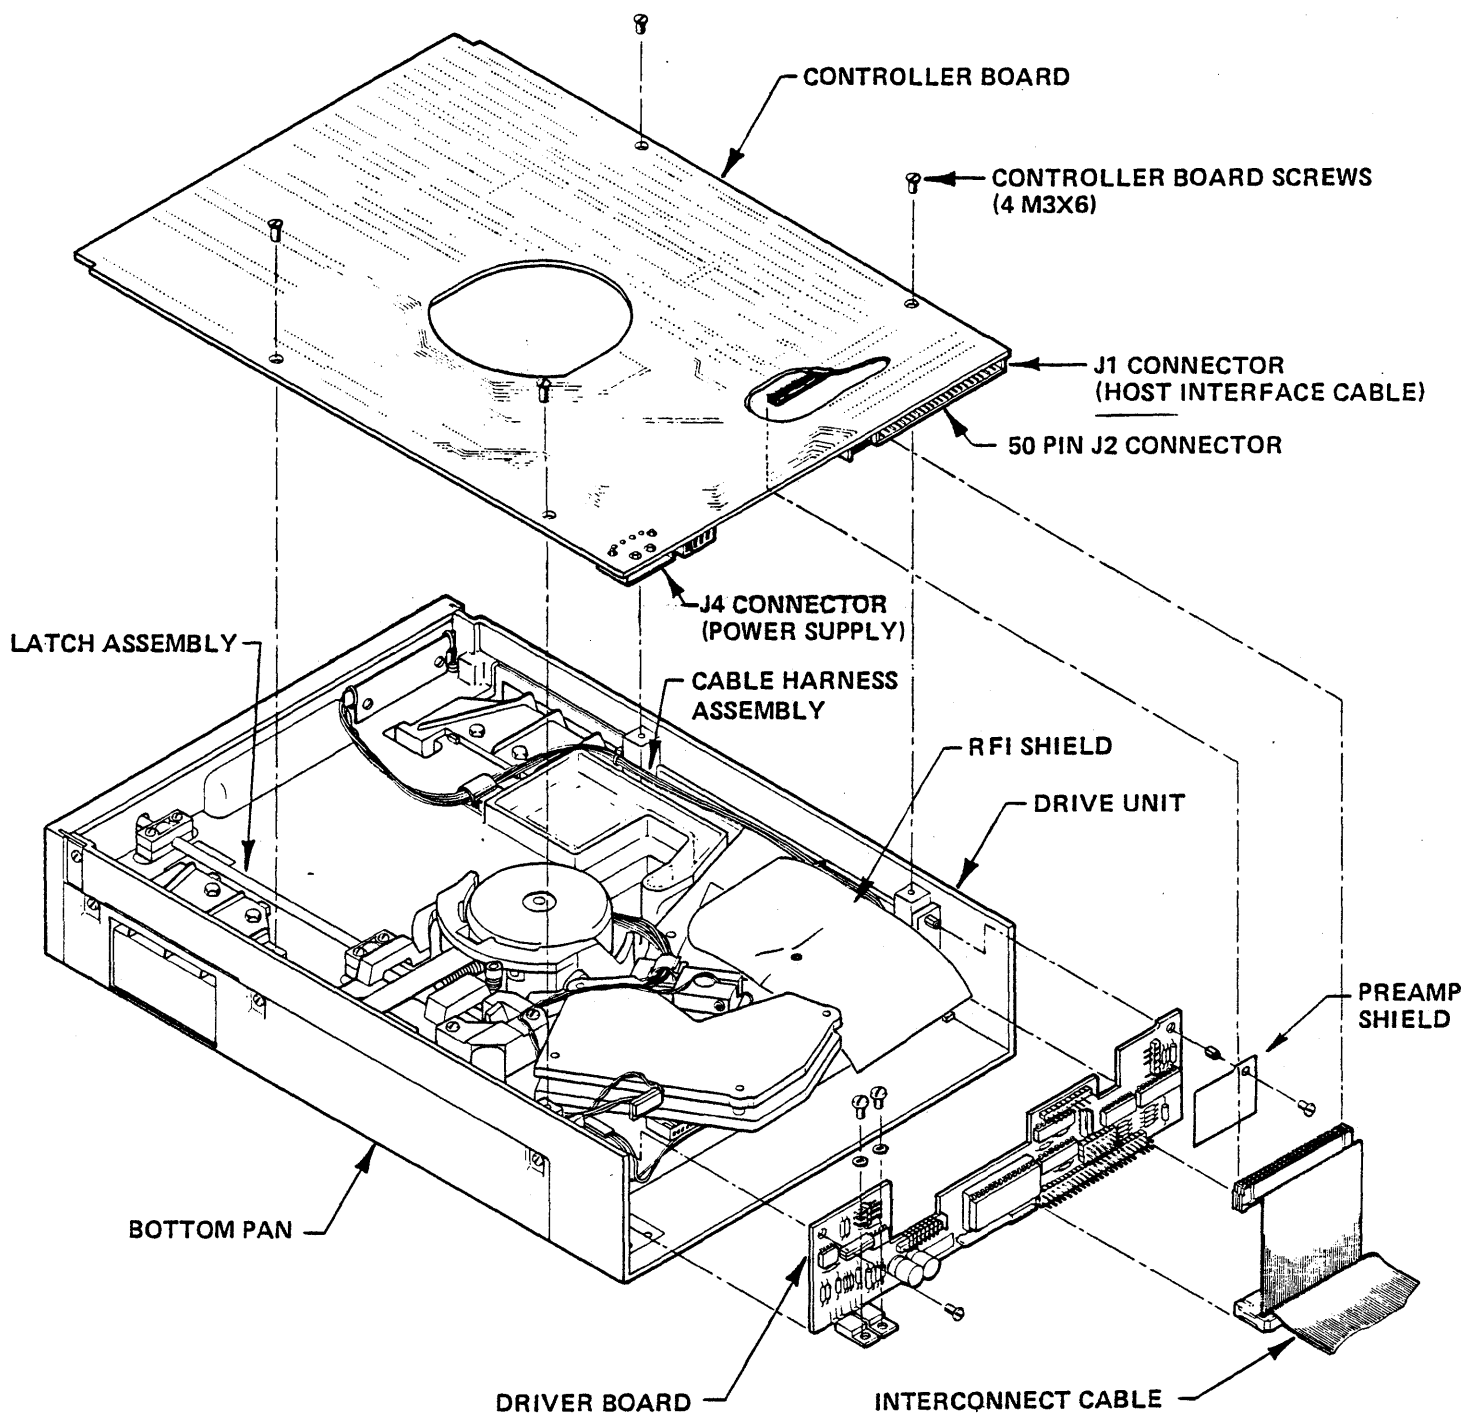

Figure 2-1. Drive Assembly Including Integrated Controller
The subsystem drive is available in two basic configurations: the more common is a drive with integral controller (Figure 2-1); the other is simply a slave drive without controller. At least one controller must be present in any given application; each controller can support up to two drives (its own and one additional slave).
The host is connected to the controller via one 50-pin Small Computer System Interface (SCSI) bus cable. The controller is connected to each drive via a single daisy-chained 50-pin cable originating at the controller (Figure 2-1). Each drive has drive select jumpers. The drive with controller attached is not necessarily addressed as drive 0.
Each drive has a driver board printed circuit assembly (PCA) (Figure 2-1) to control its own mechanics and provide the interface to the controller via a 50-pin drive interconnect cable. The preamp also resides on this PCB.
3. Connectors (Figure 2-1).